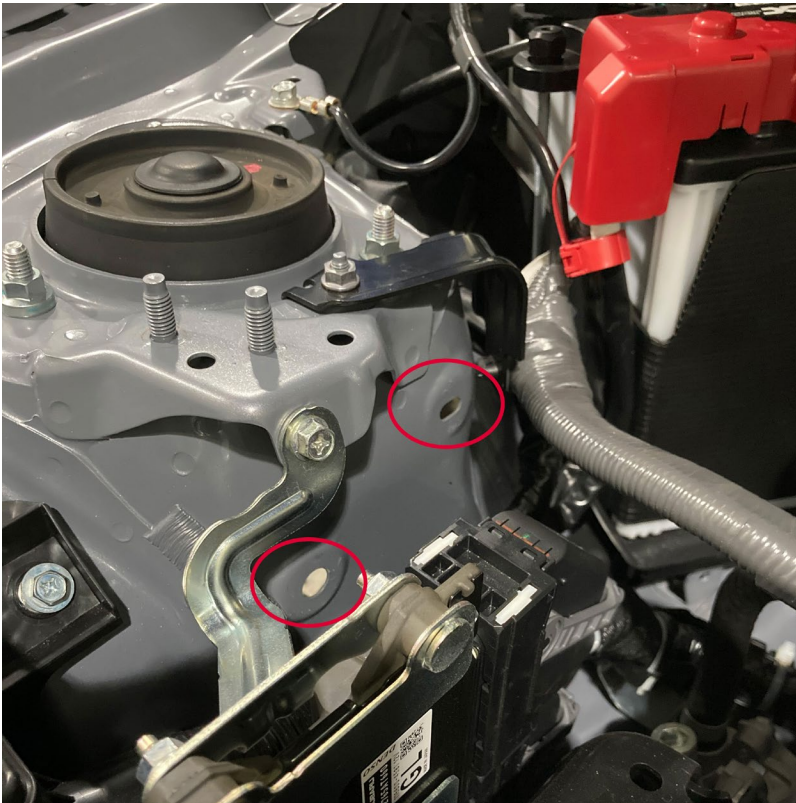

Figure 1
1. Begin by removing the small black adhesive patches that cover the circled holes. (Fig 1)